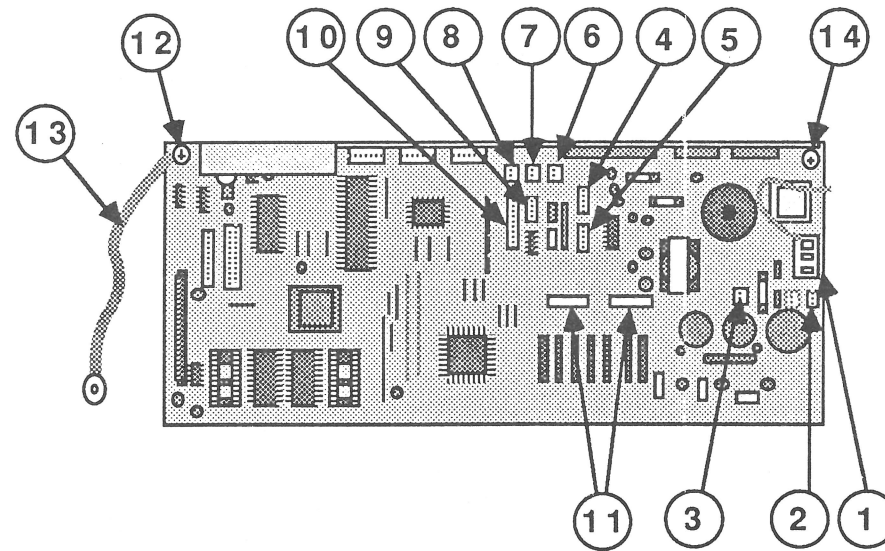

FIGURE 28
2. Install the Phillips screw (Figure 28, #12) that secures the right side of the main board to the base of the printer. Also, be sure to reattach the ground braid (Figure 28, #13).
3. Install the Phillips screw (Figure 28, #14) at the left side of the main board.
- Power supply cable from CN1 (Figure 28, #1)
- Auto load solenoid cable from CN8 (Figure 28, #2)
- Cut sheet feeder switch cable from CN11 (Figure 28, #3)
- Carrier motor cable from CN5 (Figure 28, #4)
- Paper-out sensor cable from CN9 (Figure 28, #5)
(Figure 28, #6)
(Figure 28, #7)
(Figure 28, #8)
(Figure 28, #9)
(Figure 28, #10)
CN4 (Figure 28, #11)